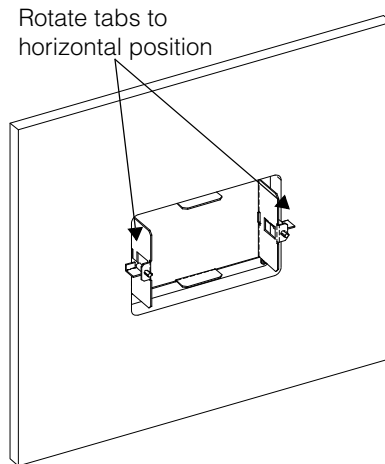

Figure 2-5 Securing the Mounting Plate
4. Secure the mounting plate by tightening the two screws to rotate the tabs to the horizontal position (see Figure 2-5) and pull the tabs tight against the inner surface of the wall. Be careful not to overtighten the screws and damage the wall.